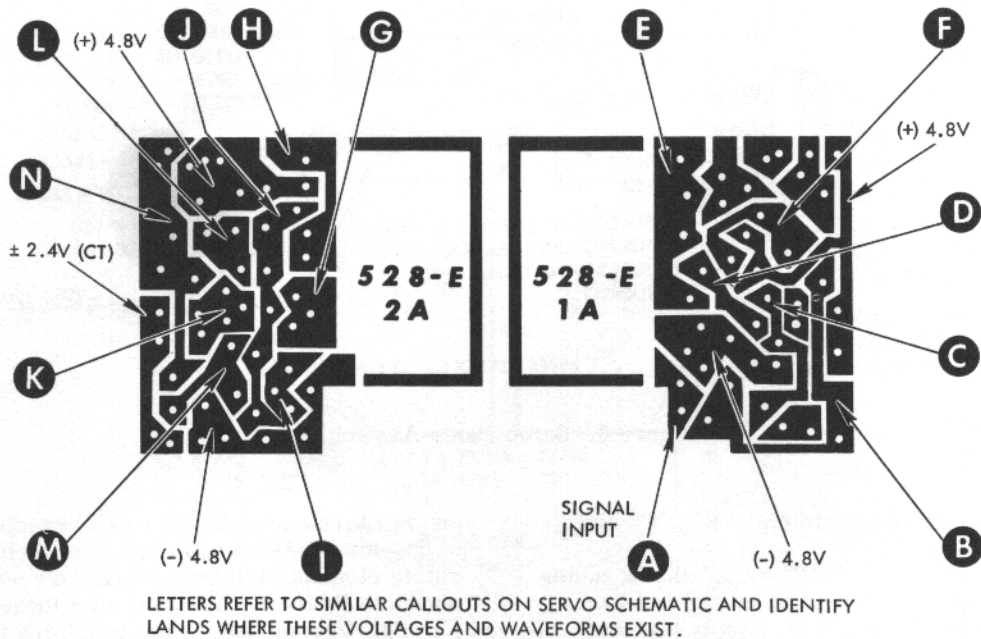

Figure 7. Test Point Locations
- 65. Using an eye loupe, carefully inspect boards top and bottom. Check for shorted leads, shorted lands, solder across lands, correct wire placement, etc. Sometimes solder shorts are hard to find. Compare back side of each board with land diagram in figure 7. Remove all defects found.
a. Use a voltmeter to check for correct voltages on back side of servo boards. See figure 7 for voltage test points.